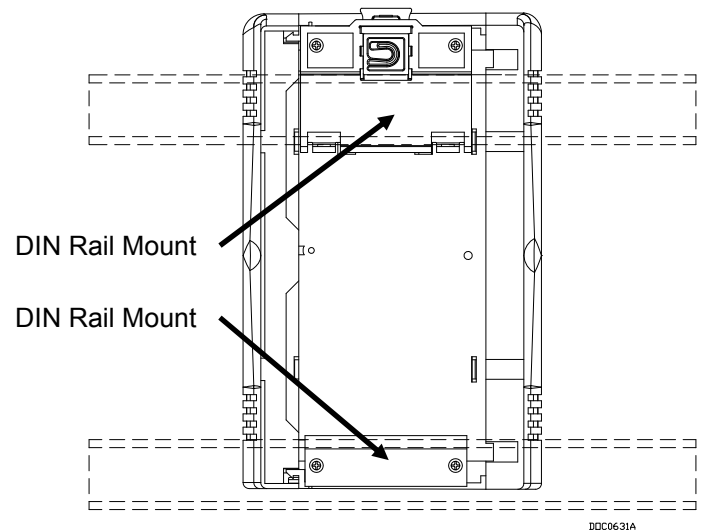

Figure 4. Back of the FFI
3. The FFI housing mounts on two 35 x 7.5 mm DIN rails. See *Figure 4*.